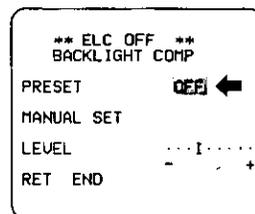

Fig. 49
- The field setup menu is displayed on the monitor screen as shown in Fig. 49.
- After masking is completed, press the Setup Mode Button (SET UP) for more than 2 seconds and the 25 Mask Areas on the monitor screen disappears and the field setup menu shown in Fig. 49 is then displayed.